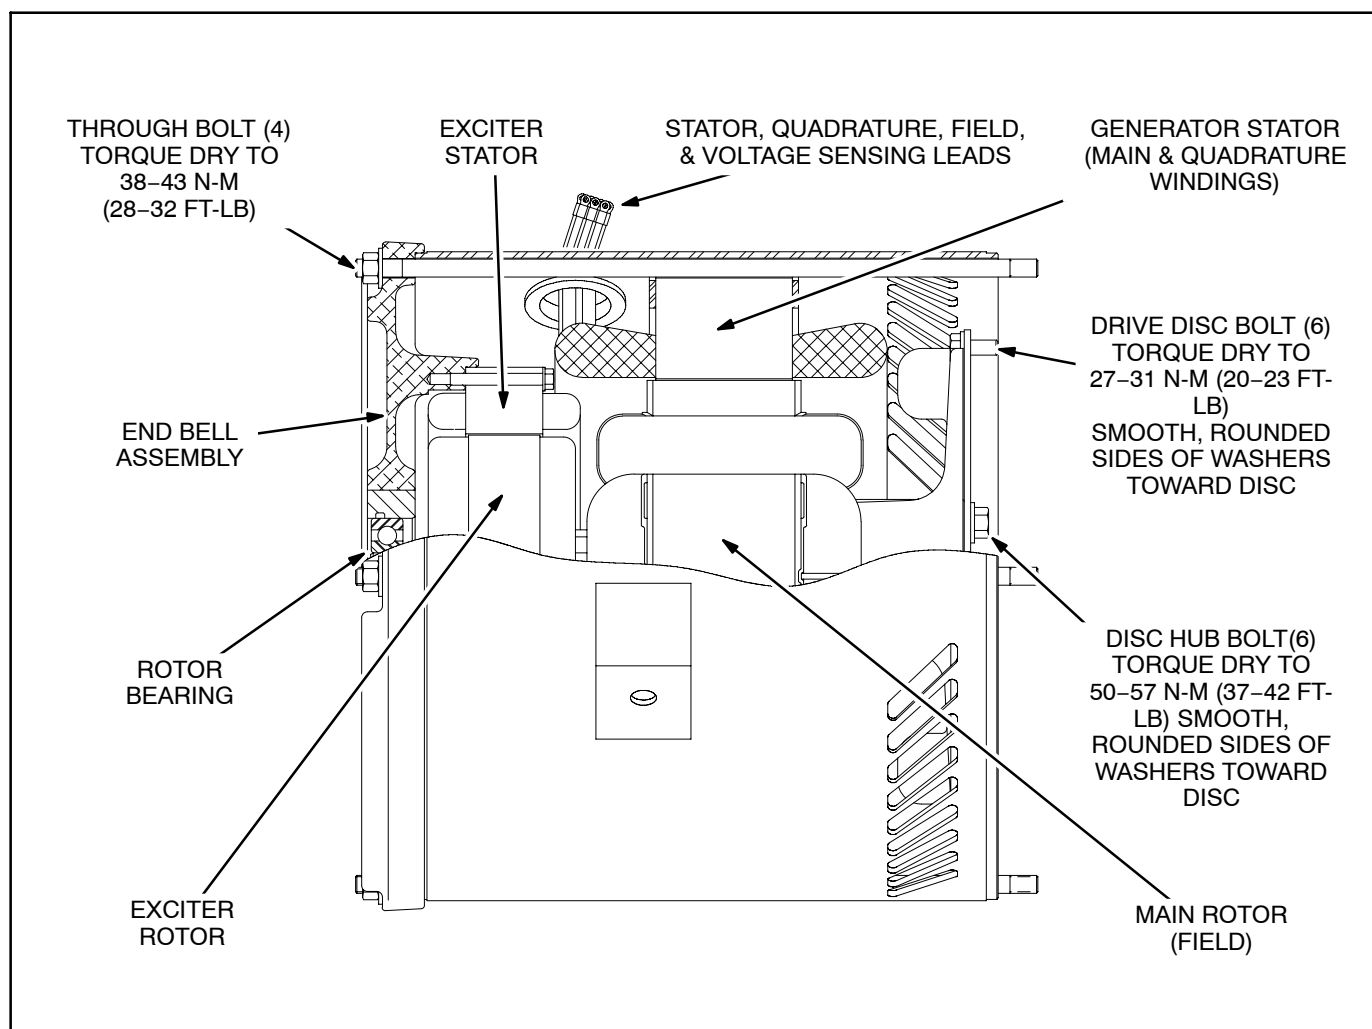

FIGURE 7-1. TYPICAL GENERATOR
These are 4-pole, rotating-field, brushless, single-bearing generators (Figure 7-1). Operation is as follows:
8. Cinch a strap around the rotor and remove the six disc-to-flywheel bolts (Figure 7-1). When removed, cradle the rotor horizontally in wooden blocks to prevent damage to windings, laminations and drive disc.
9. Use a gear puller to remove the rotor bearing or exciter rotor (Figure 7-1).
1. Press a new exciter rotor or rotor shaft bearing on up to its locating shoulder on the shaft. Do not lubricate the shaft (Figure 7-1).
2. Torque the six or eight disc-to-hub bolts (Figure 7-1) to 50–57 N-m (37–42 lb-ft). Make sure that:
3. Torque the six or eight disc-to-flywheel bolts (Figure 7-1) to 27–31 N-m (20–23 lb-ft). Make sure the rounded edges of the washers are on the disc side.
7. Torque the two exciter stator screws (Figure 7-1) to 11 N-m (8 lb-ft). The pole to which the leads are tied must be up.
8. Wipe the bearing bore in the end bell lightly with molybdenum disulfide grease and make sure the rubber O-ring (Figure 7-1) is in place.